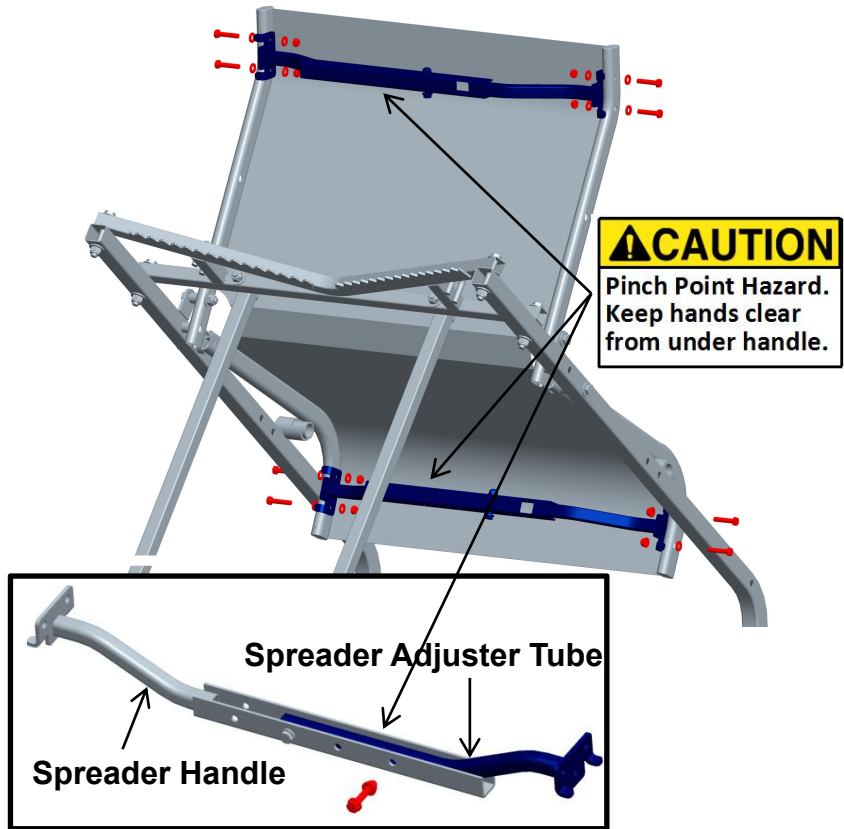

Figure 11
Install two (2) Seat Spreader Tools (#12) onto Seat & Backrest Frame (#10) using eight (8) M6x30 Bolts, sixteen (16) Steel Washers and eight (8) Locknuts as shown in Figure 11. Securely tighten bolts.